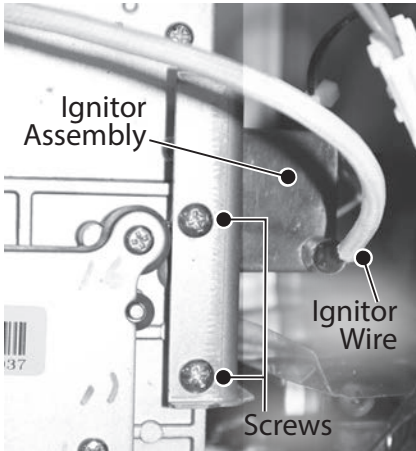

Figure 32 - Ignitor assembly location
**8** Locate the ignitor assembly on the right side of the water heater. Remove the two screws securing the ignitor assembly and bracket to the gas manifold. Place screws aside in a safe place for reinstallation. See Figure 32.